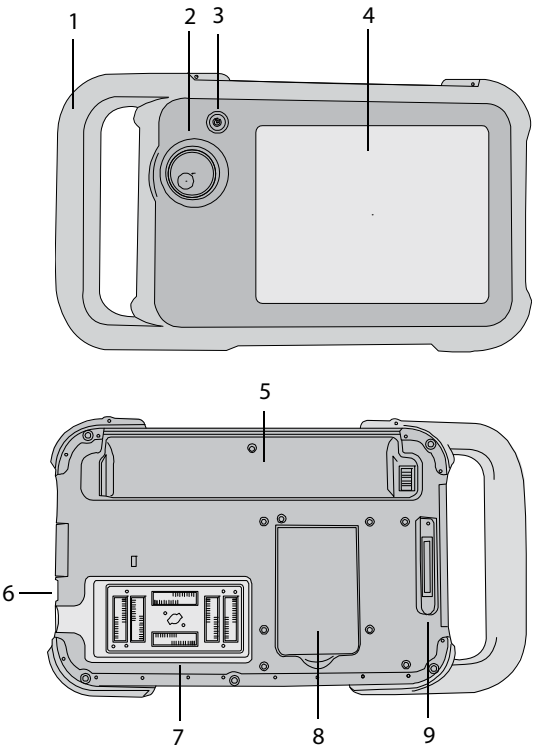

Figure 1 System front (top) and back (bottom)
The back of the system has a battery compartment, a transducer compartment, and a connector for the NanoMaxx™ dock. The side has two USB ports. (See Figure 1 on page 1.)
The dock has ports for the power supply, printer cable, and more. It attaches to the back of the system. (See Figure 1 on page 1.) Each port has a symbol that describes its use.
- ❖ Insert the dock into its connector on the back of the system. (See Figure 1 on page 1.)
- 2 Connect the DC power cable from the power supply to its port on the dock. See Figure 1 on page 1.
- ❖ Insert the USB storage device into a USB port  on the system. See Figure 1 on page 1.